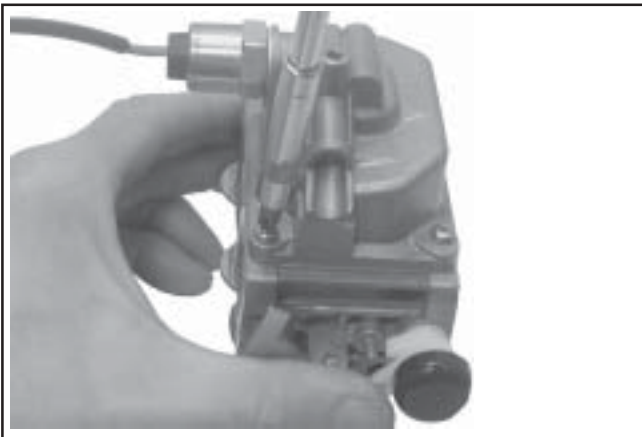

Figure 5-59. Installing Fuel Bowl.
16. When the proper float height is obtained, carefully reinstall the fuel bowl, using new O-Rings onto the carburetor. Secure with the four original screws. Torque the screws to $2.5 \pm 0.3 \text{ N}\cdot\text{m}$ ($23 \pm 2.6 \text{ in. lb.}$). See Figure 5-59.